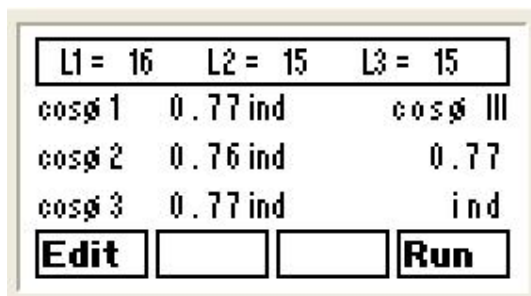

Fig.41.- Exit any setup screen
- If the error message is not displayed at the end of the automatic setting, press the **Run** key to assess whether the cosine values of ϕ and the value of kvarC connected are logical or not (see Fig. 41). If they are correct, press the **Run** key again and the regulator will start to operate.
- The screen displayed on Fig. 41 will be displayed at the end of the adjustment procedure on any setup screen, after the final validation of the settings with **OK**, indicating the $\cos \varphi$ in each phase and three-phase, as well as the kvar entered in each of the L1, L2 and L3 phases in case it is started. The menu bar shows the options to continue editing values when you press **Edit**. The unit will start-up when you press **Run**. At the end of the setup process, when the values displayed on the screen seem logical, both in terms of $\cos \varphi$ values and capacitor steps that will be connected, press **Run**. Otherwise, press **Edit** to return to the setup menu and check for any errors.